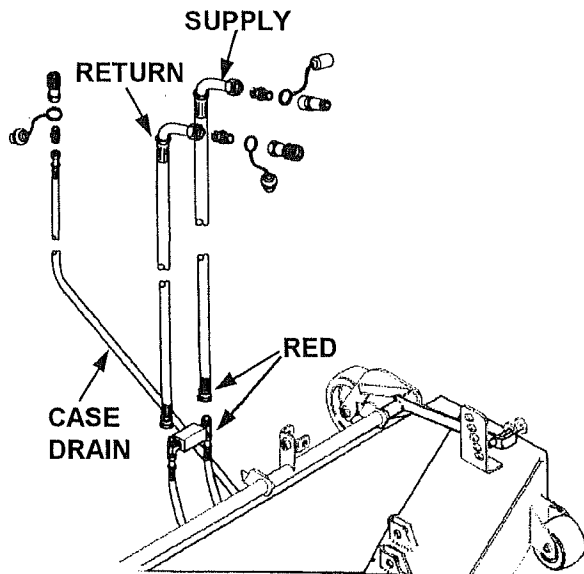

FIGURE 33
5. Connect the hydraulic hoses as shown in figure 33. Do not tighten until hoses are routed to the PTO.